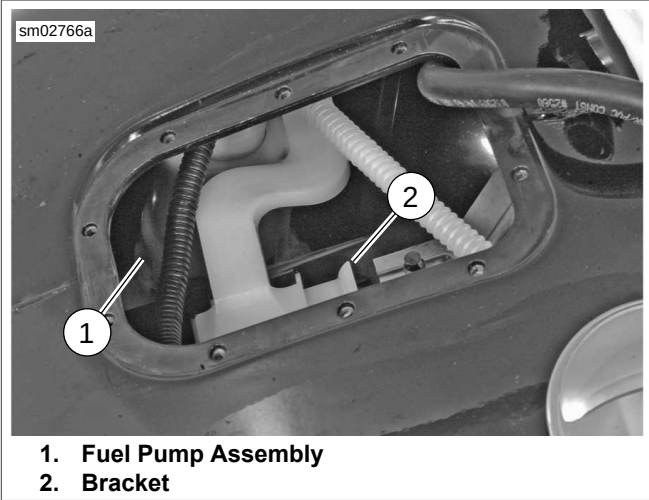

Figure 4-36. Fuel Pump
9. See Figure 4-36. Pull up on bracket (2) and slide forward. Remove fuel pump assembly (1) from fuel tank.
2. See Figure 4-36. Install fuel pump assembly (1) into fuel tank. Slide bracket (2) rearward into welded bracket until it snaps into place.